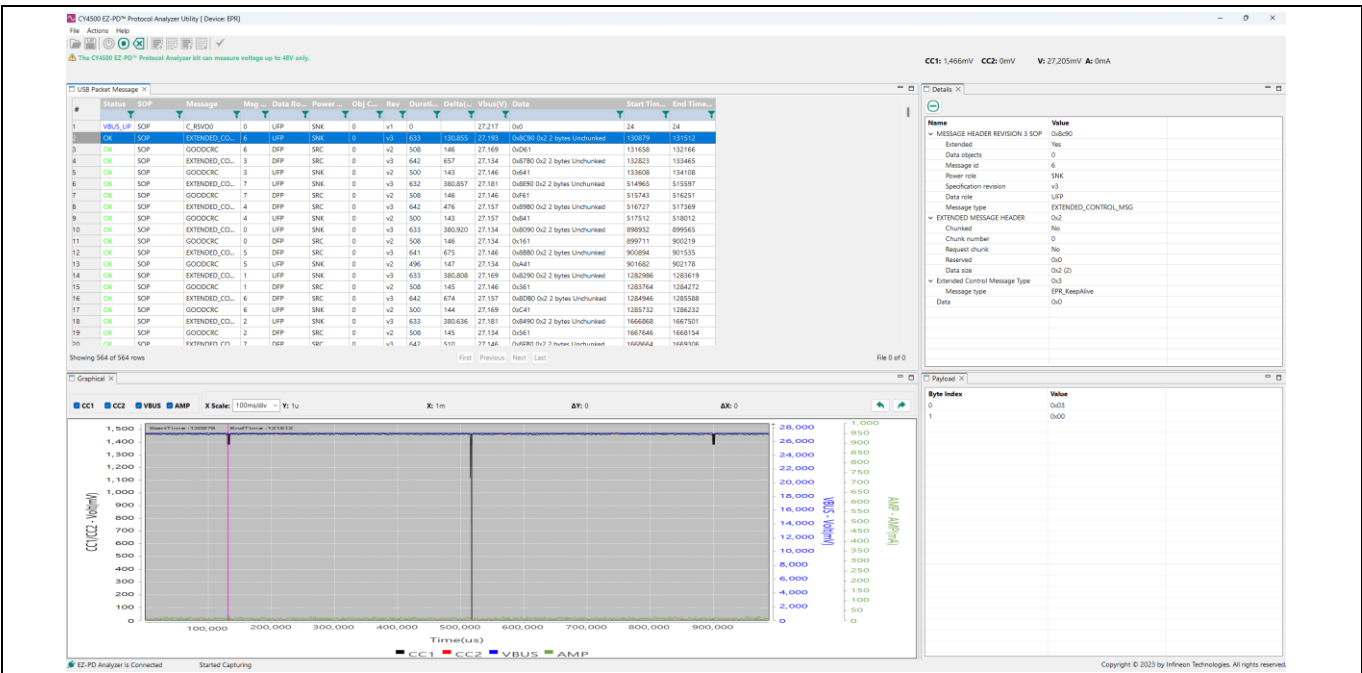

Figure 14 EZ-PD™ Analyzer Utility showing PD packets captured on the CC line
8. Upon connecting the USB Type-C power adapter, the utility running on the host PC automatically displays a string of messages on the screen. Make sure that the hardware connections are not loose or do not get disconnected in the middle of a data capturing event. The EZ-PD™ Analyzer Utility will display messages as shown in Figure 14.